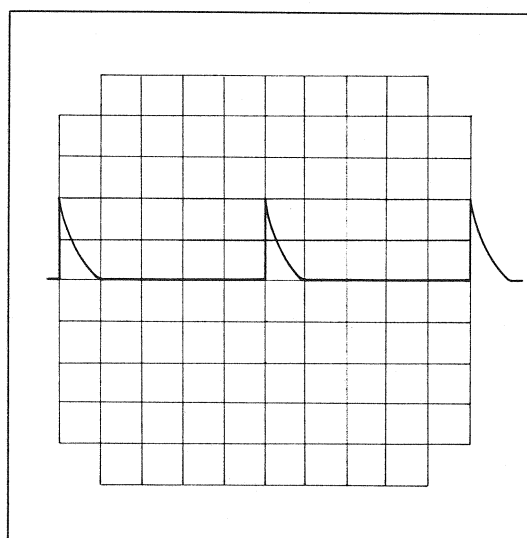

Fig. 12
3. With the SWEEP TIME/DIV control, set to 0.1 ms, apply 1 ms marker signal to the CH1 to display 3 wave on the screen as shown in Fig. 12.